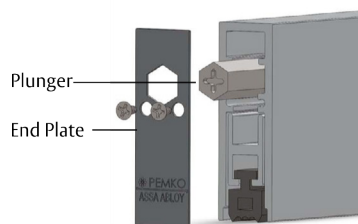

**Figure 4 - Properly Installed End Plate**
3. Install the end plate opposite the plunger, with the “This Side In” sticker towards the ADB, using the end plate screws as shown in Figure 4.